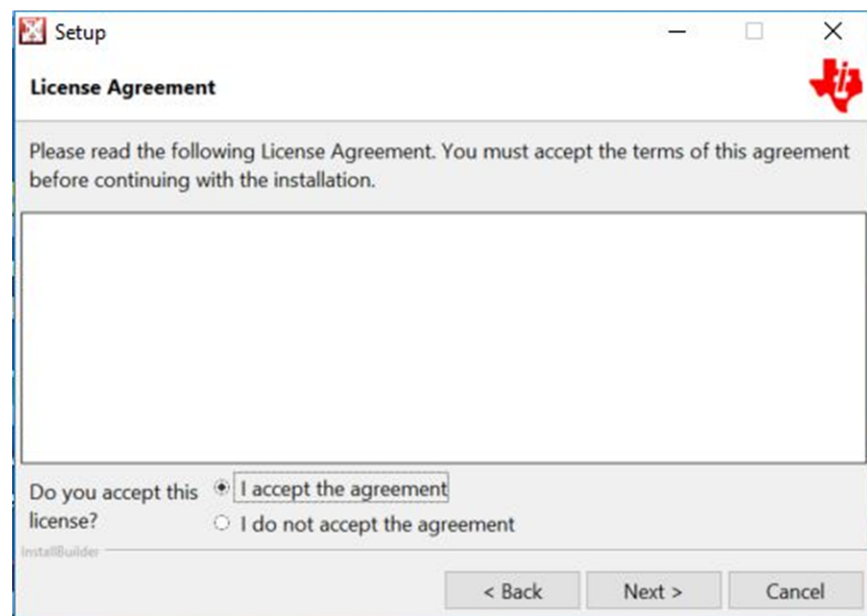

Figure 7. Accepted License Agreement
Step 5. Click the *I accept the agreement* radio button if accepted and then click the *Next* button (see Figure 7).